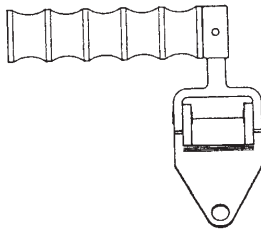

Fig. 13 – Carrying handle
16. The carrying handle (Fig. 13) serves for carrying and taking the rifle from one combat position to another.